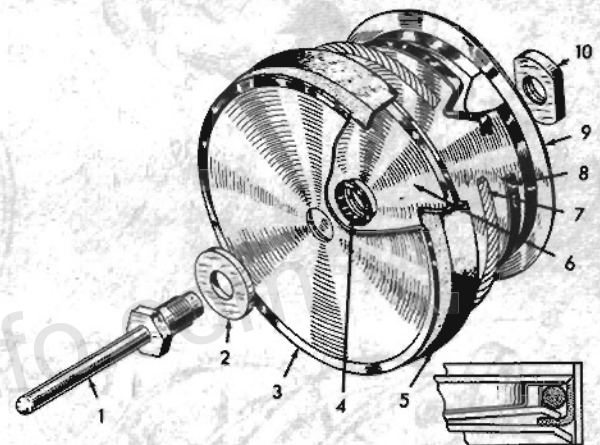

FIG. 35
**Power Piston**—Remove the hook clamps, allowing the vacuum piston and spring to be removed. Remove the large gasket from the end plate. Using care to protect the finished surface of the rod, remove the nut (10, Fig. 35) which holds the vacuum piston assembly to the push rod (1) and remove the vacuum piston assembly. From the push rod separate the wick retainer plate (9), packing ring (8), packing wick (7), rear packing plate (6), leather packing (5), push rod seal (4), front packing plate (3), and push rod washer (2).